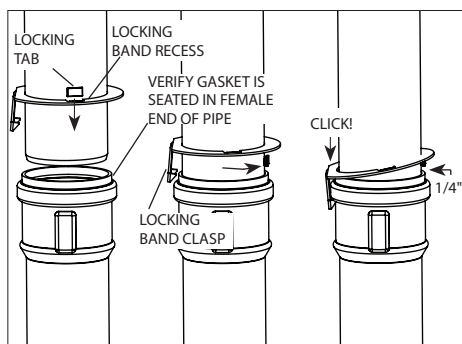
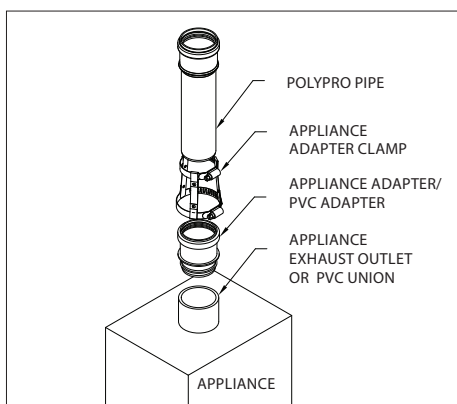
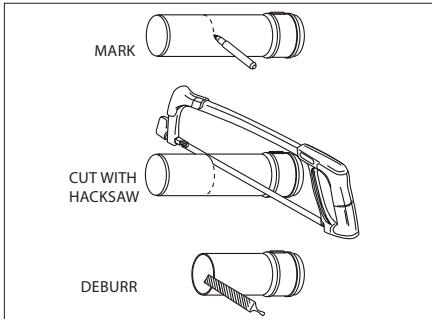

Figure 2
Figure 3
Figure 5
Verify the gasket is seated evenly inside the groove in the female end. For PP / Metal pipe with a locking tab, slide Locking Band on male pipe section **Fig.2**. Insert locking tab into locking band recess, rotate button away from Locking Band Clasp, insert pipe sections, push lock band clamp downward into socket, disengage socket / tab 1/4"-5/8" from socket **Fig.2**. **Screws are not allowed for joint connection. Never penetrate the wall of PolyPro vent pipe. (Exception- a SS screw may be used outside the building on exterior termination fittings to orient an elbow, etc).**
Approved DuraVent / Security Chimney 1738/636 metal vent fittings can be used with PolyPro. Follow the above (**Fig.2**) for PolyPro (female) to Metal Vent (Male) connections.
1. If the appliance has a PVC/CPVC female outlet use the Appliance Adapter/ PVC Adapter and Clamp. (**Fig.3**)
- Pipe lengths may be cut to length (**Fig.5**). Use an alternate clamp (**Fig.3-PPS-PAC / PPS-LBC**) for the connection if a locking tab (**Fig.2**) is removed.